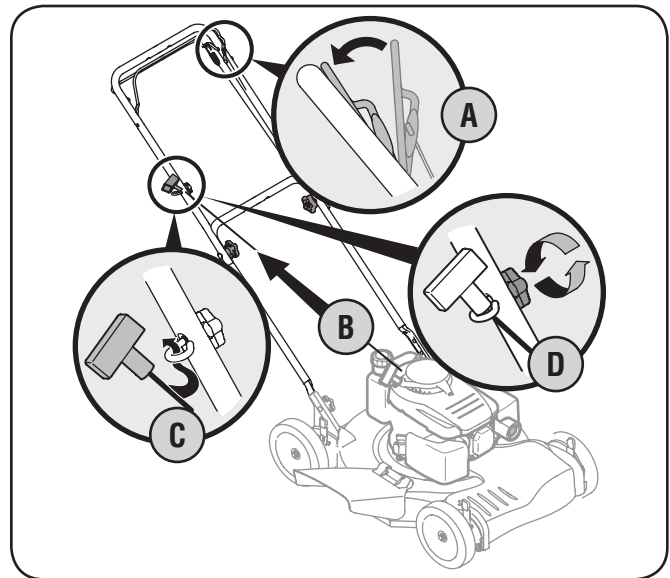

Figure 3-5
- The rope guide is attached to the right side of the upper handle. Loosen the wing nut which secures it to the upper handle. Refer to Fig. 3-5.